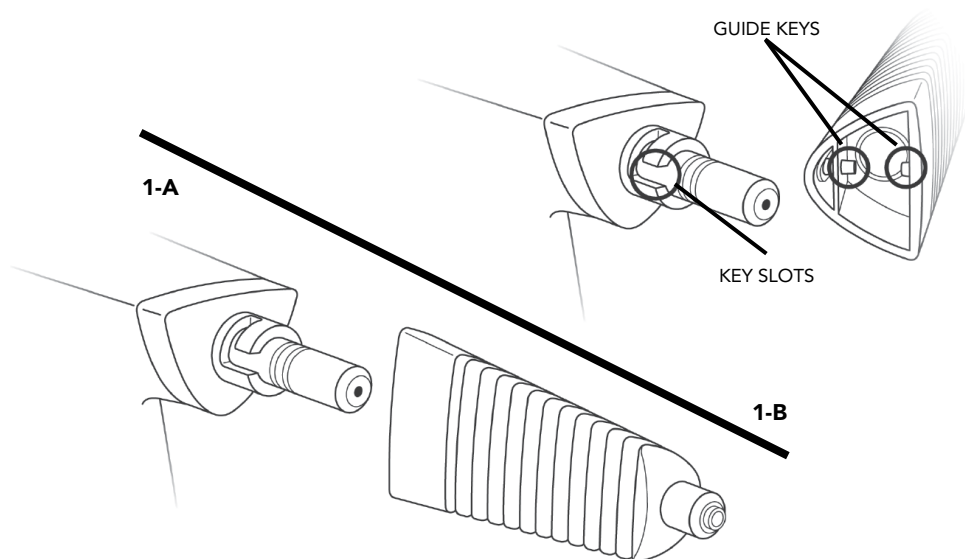

FIGURE 1
1. Align Jet Nozzle with Steam Nozzle as shown (FIGURE 1-A). Jet Nozzle should be sideways 90° counter-clockwise from it's final position. Guide keys on Jet Nozzle should line up with key slots on base of Steam Nozzle (FIGURE 1-B).